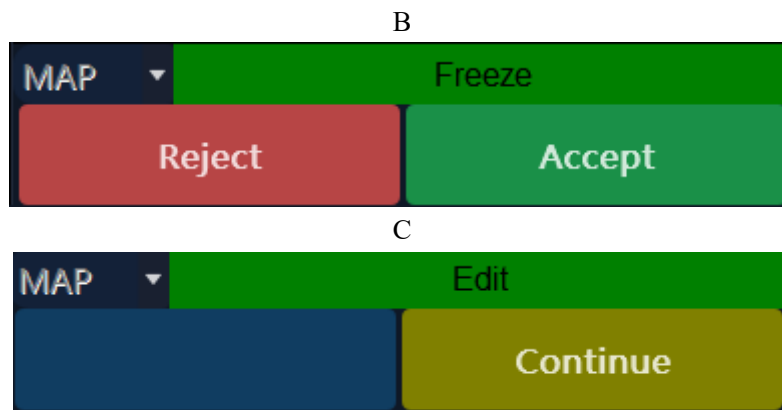

Figure 5-2 Acquisition Button
The collection button (Figure 5-2) is used to freeze the point data so that it can be checked more carefully before acceptance. You can then use these buttons to accept or discard this point.
- 1) In the Ready state (Figure 5-2 A), click Freeze to enter the frozen state and review or edit the point data. When the system enters the freeze state (Figure 5-2B), the Freeze button changes to the Reject and Accept buttons respectively.